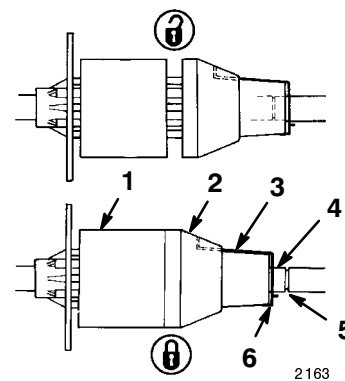

Figure 25
- **Locked position**—Slide the coupling lock spring into the left-hand shaft groove (Fig. 25).
- **Unlocked position**—Slide the coupling lock spring into the right-hand shaft groove (Fig. 25).